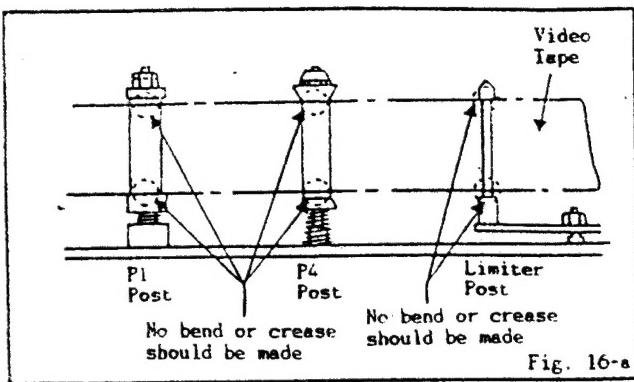

Fig. 16-a
2. Put the Post Adjustment Tip (JG026) on the master plane (JG022), adjust the height by sliding the 'A' part of Post Adjustment Tip (JG026) to the "a" direction of the master plane (JG022). Refer to Fig. 16-b, c.